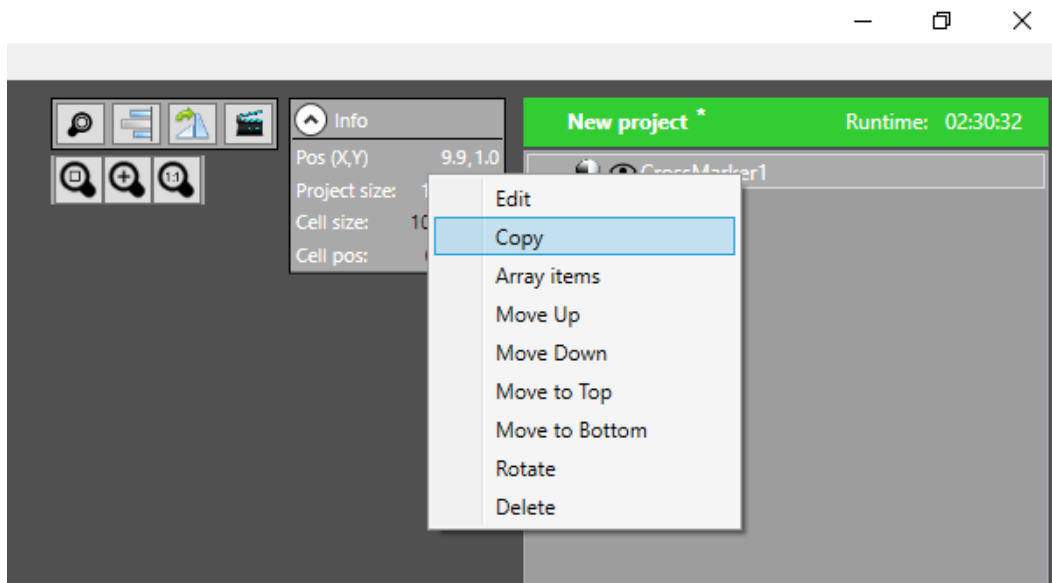

Figure 3-100 Making more markers with the same nam
11. Right click on the marker and copy it to create multiple marker images in the project, see in **Figure 3-100 on the next page**.